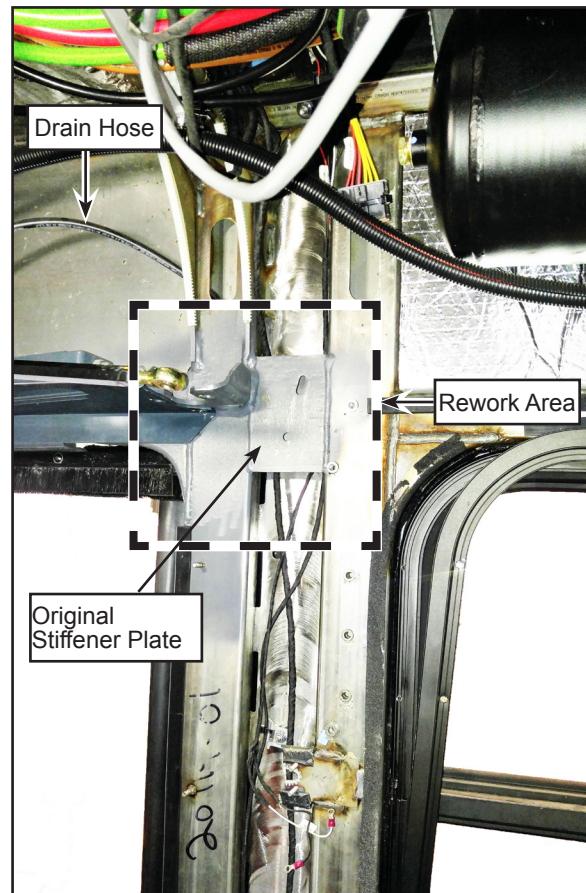
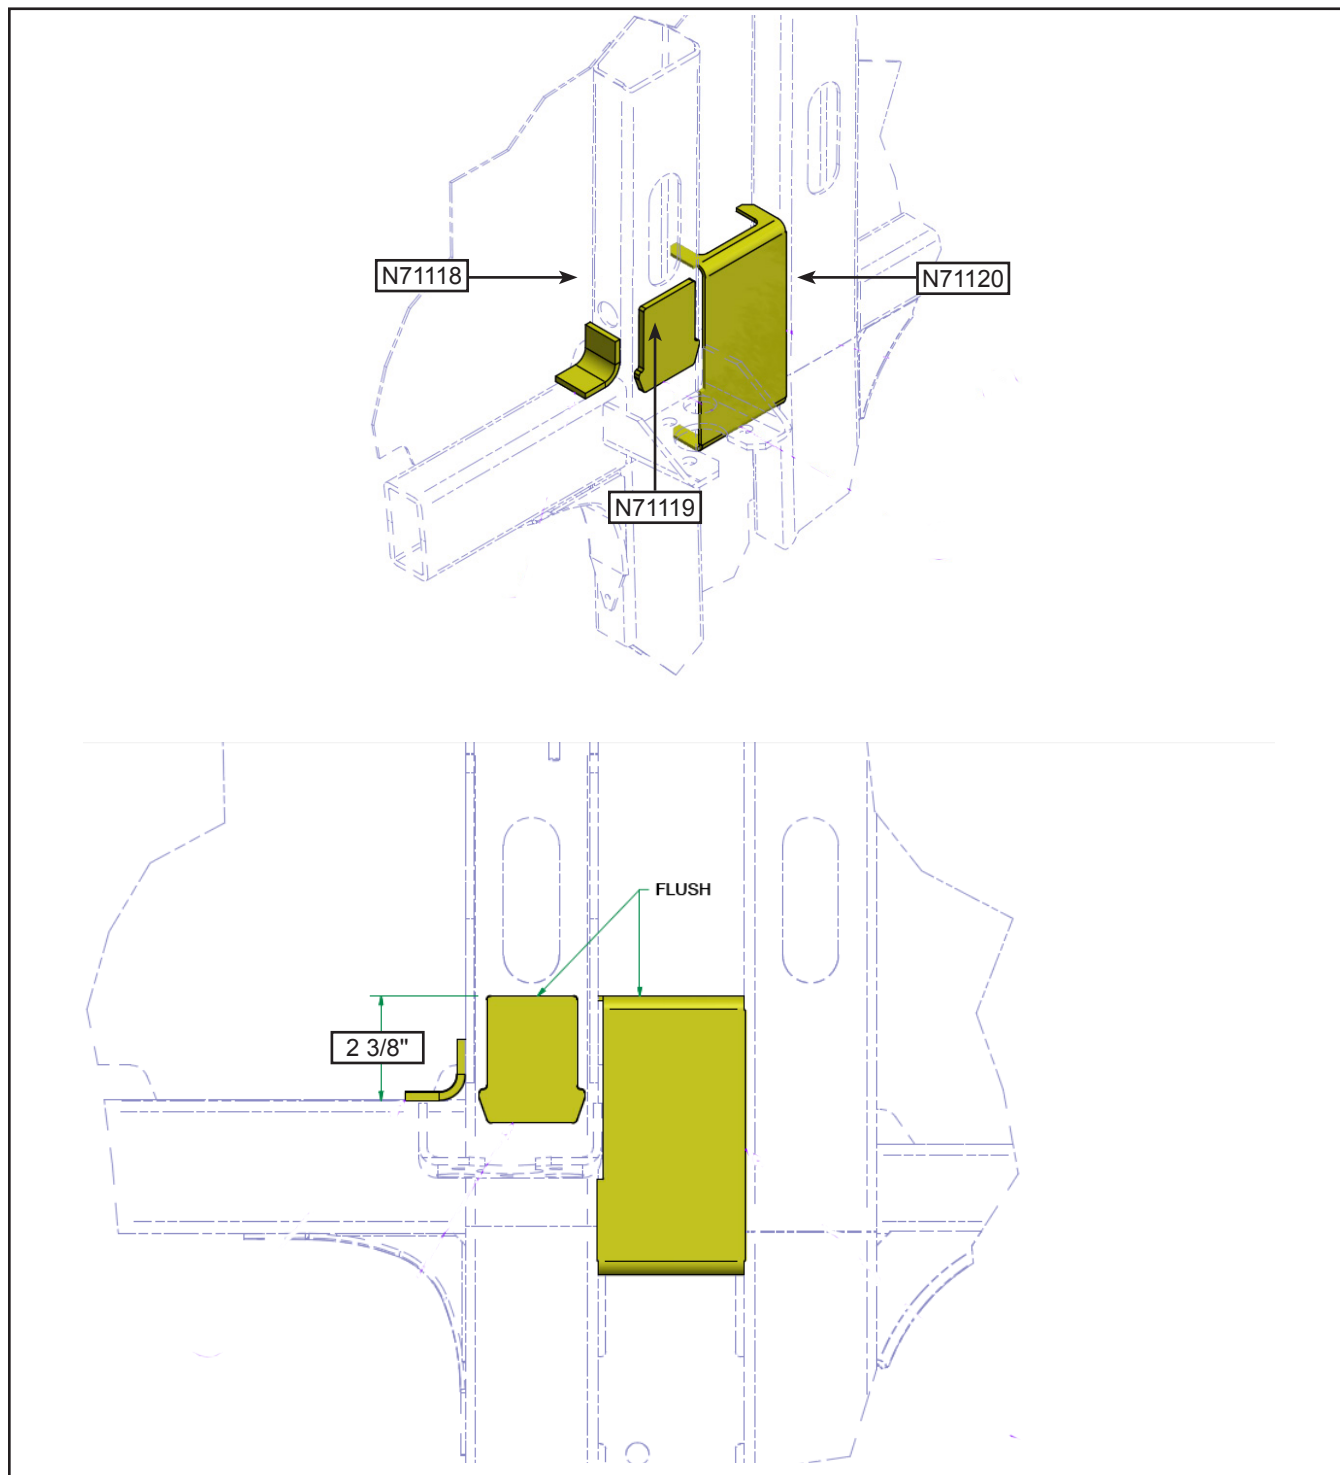

Figure 7 - Secure All Hoses and Wires Away From the Rework Area
Figure 8 - Plate Positions
- 1.16. Remove the wires and the pneumatic hoses from the wall structure, including the pneumatic drain hose into the vertical tube (see Figure 7) and attach them temporarily away from the area to be reworked.
- 1.17. Cut and remove the original stiffener plate between the two vertical tubes, see Figure 7. This plate will be replaced by N71120, see Figure 8.
- 1.20. Grind as required to get smooth surfaces and weld stiffening plates N71118, N71119 and N71120. See Figure 8. Given the heat transfer to the wall, take care not to damage the parts in the surrounding area, such as the outside fiberglass panel. Make a full weld on every possible edge to the structure, not to the wall.